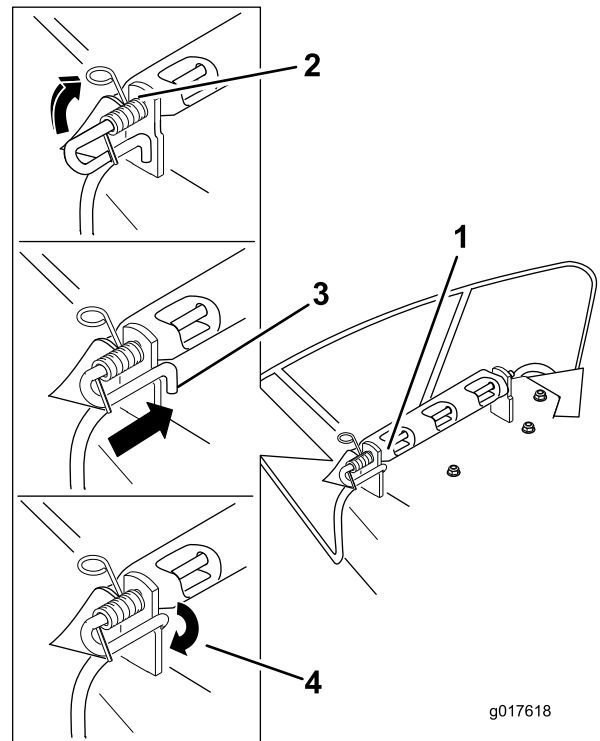

Figure 60
- Lift the loop end of the spring and place it into the notch on the deflector assembly bracket (Figure 60).
- Secure the rod and spring assembly by twisting it so the short end of the rod can be placed behind the front bracket welded to the deck (Figure 60).